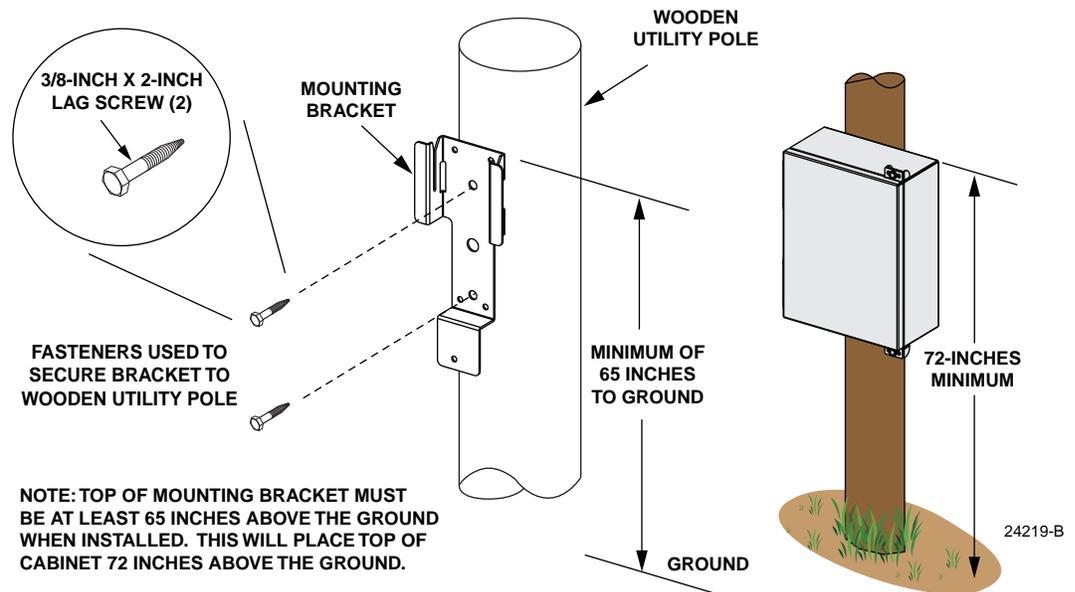

Figure 6. Installing Mounting Bracket on a Wooden Utility Pole
- 1/2-inch through-bolt (1), 1/2-inch nut (1), 1/2-inch flat washer (2)
- 1/2-inch threaded rod (1), 1/2-inch nut (1), 1/2-inch flat washer (2), 1/2-inch lock washer (2)
2. Using the mounting bracket as a guide, mark the location of the bracket mounting holes on the pole as shown in Figure 6.